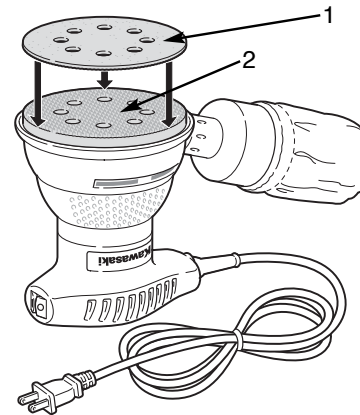

FIGURE 3.
Firmly press the sanding disc (1) onto the hook and loop pad (2) (see Figure 3).